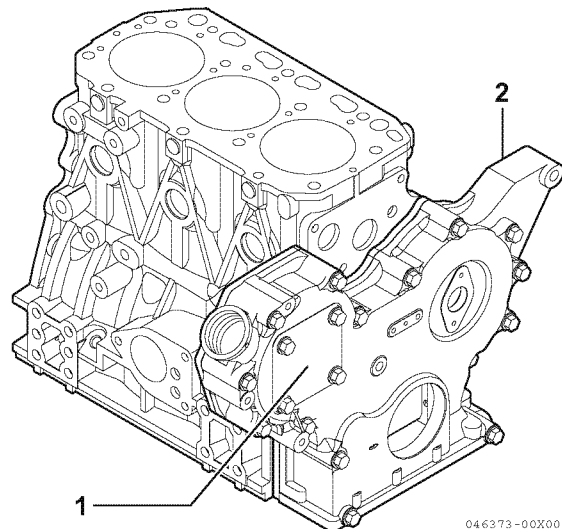

Figure 7-10
- Remove the fuel injection pump drive gear cover (**Figure 7-10, (1)**) from the gear case cover (**Figure 7-10, (2)**).